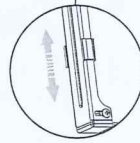

figure 12
2. If there are 3 holes, the installation arms (4-2) need to be taken apart from installation bracket firstly. Connect 3 installation arms (4-2) to the projector, and then connect the installation arms (4-2) to the installation base (4-5). However, the installation base needs to be the center of projector. Figure 12.